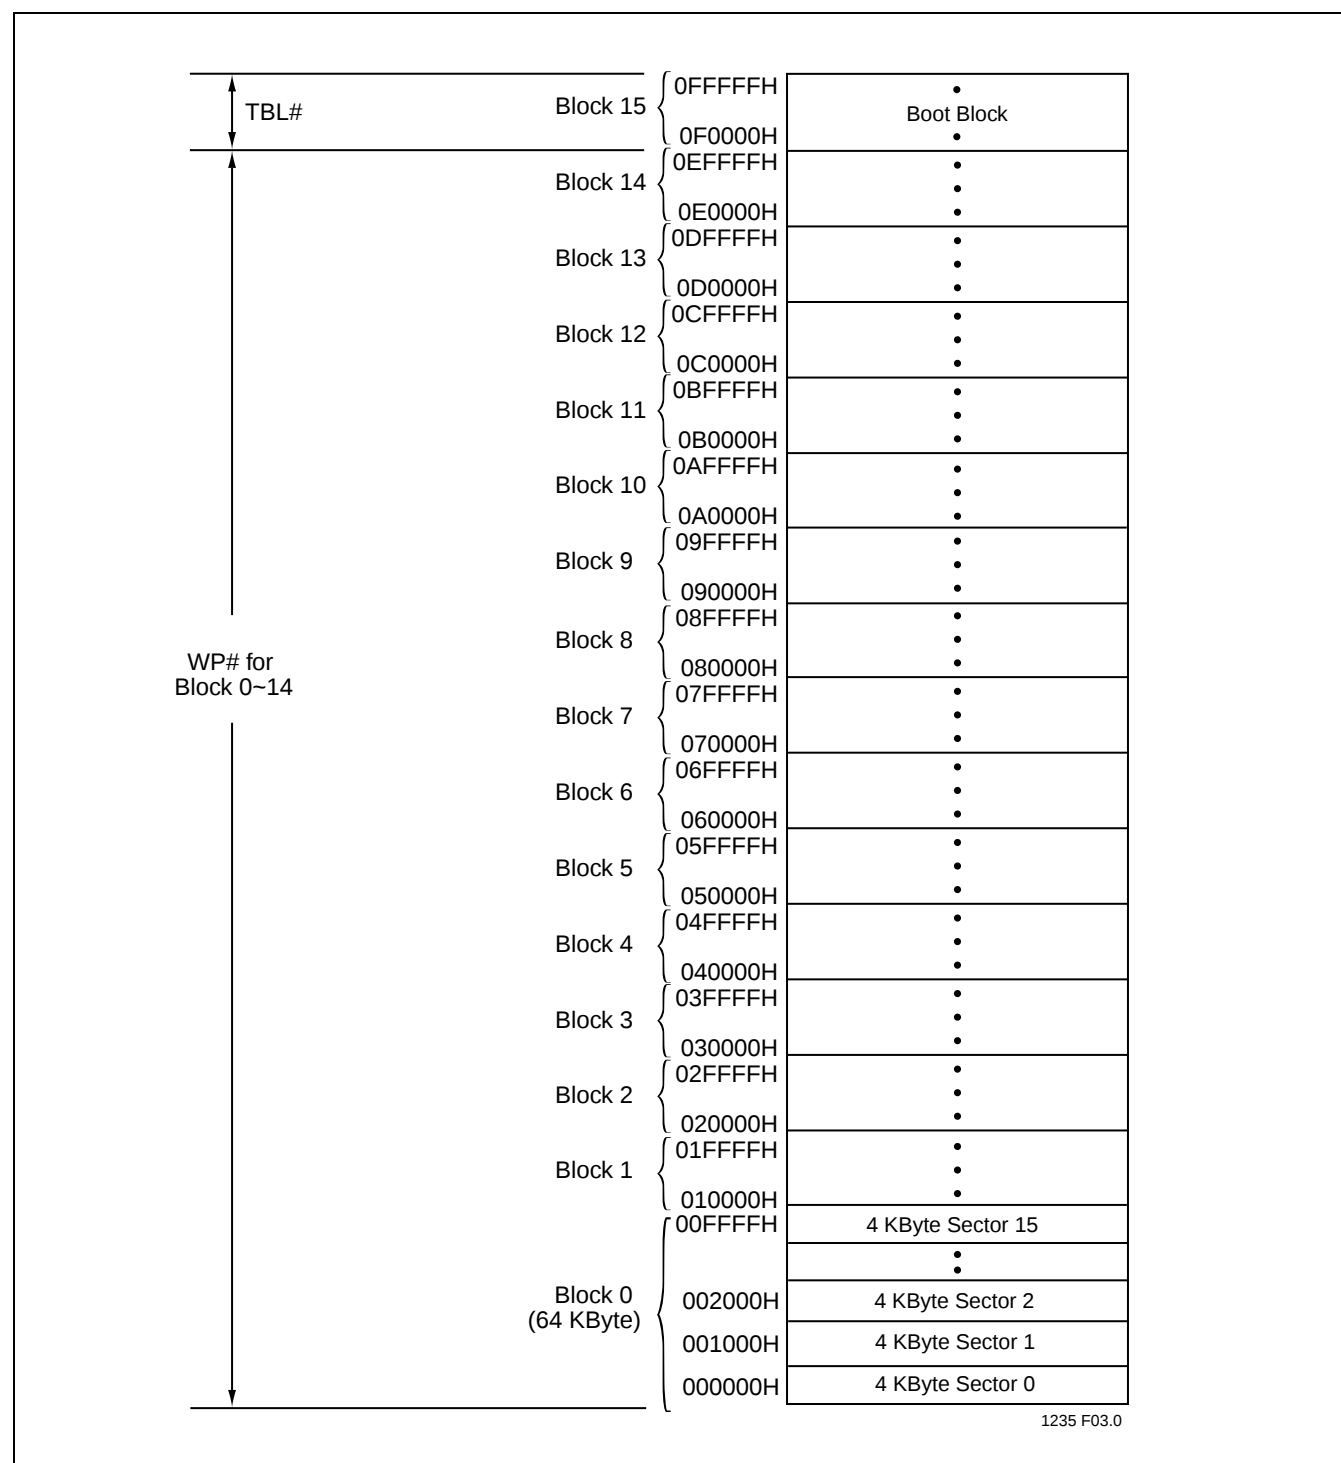

FIGURE 3: DEVICE MEMORY MAP
The SST49LF080A flash memory devices can operate in two distinct interface modes: the LPC mode and the Parallel Programming (PP) mode. The mode pin is used to set the interface mode selection. If the mode pin is set to logic High, the device is in PP mode. If the mode pin is set Low, the device is in the LPC mode. The mode selection pin must be configured prior to device operation. The mode pin is internally pulled down if the pin is left unconnected. In LPC mode, the device is configured to its host using standard LPC interface protocol. Communication between Host and the SST49LF080A occurs via the 4-bit I/O communication signals, LAD [3:0] and LFRAME#. In PP mode, the device is programmed via an 11-bit address and an 8-bit data I/O parallel signals. The address inputs are multiplexed in row and column selected by control signal R/C# pin. The row addresses are mapped to the lower internal addresses (A_{10-0}), and the column addresses are mapped to the higher internal addresses (A_{MS-11}). See Figure 3, the Device Memory Map, for address assignments.